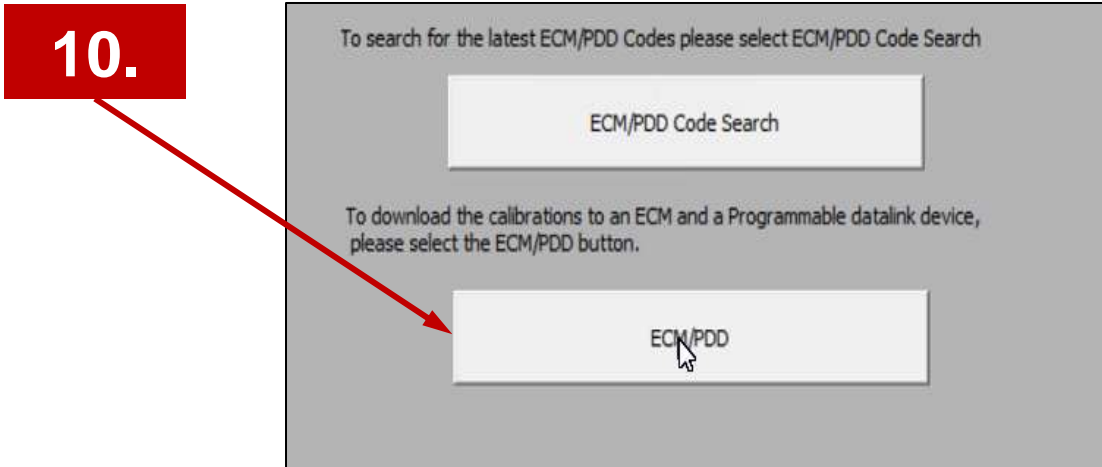

Figure 13.
Step 10: Click the “ECM/PDD” button, add all, and click on the “OK” button. *Figure 13*